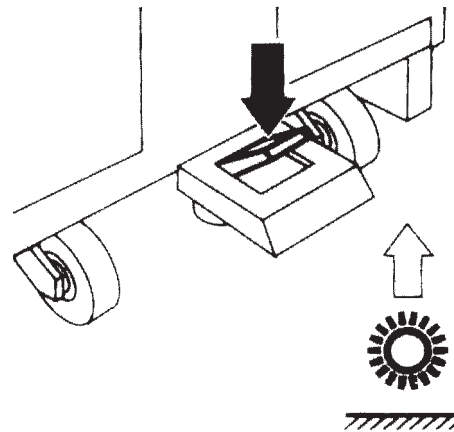

Figure 4
12. At the end of the work, release the switches (6), turn the main switch (2) to "0", then lift the brush and the squeegees with the pedal (Fig. 4).